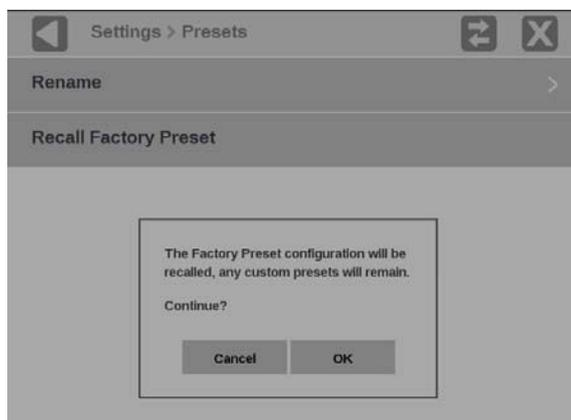

Figure 68: Presets Rename submenu
3. Select **Recall Factory Preset**. A confirmation box opens, shown in Figure 68.